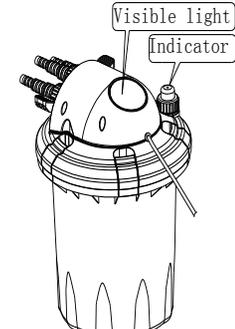

Figure 3
3. The correct functioning of the UV-C bulb is indicated by the lighting visible on the top of the outer lid. (See figure 3)
1. Your filter is designed to let you know when filtration performance declines. Your filter is equipped with a color-coded pressure indicator located on the container lid. When your filter is operating effectively, the pressure indicator will display green. If flow rate within your filter drops, performance also declines and the pressure indicator will display RED.(See figure 3)